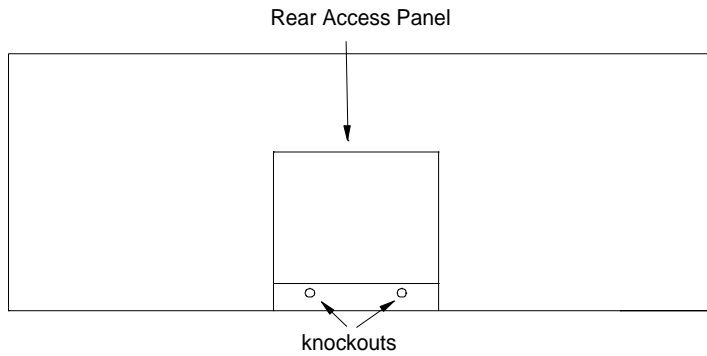

Figure 5 Lower Section Rear Access Panel
1. Remove the hex head screws which hold the lower section rear access panel in place (Figure 5).